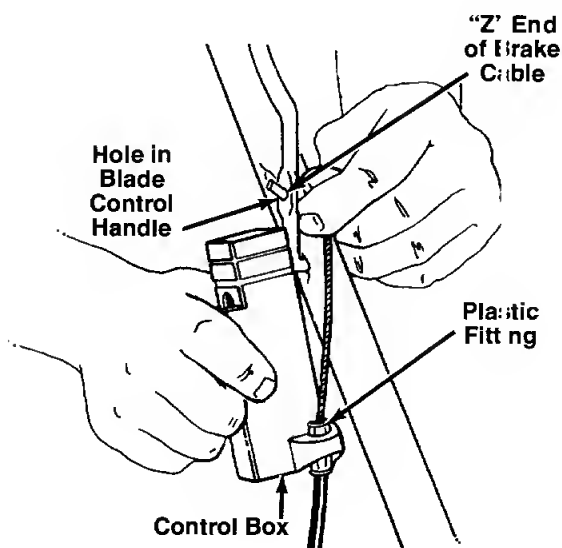

FIGURE 7.
4. Holding the control box near the left side of the upper handle (control box must be inside the handle), hook the "Z" end of the brake cable into the control handle from the **outside** to the **inside**. See figures 7 and 8.